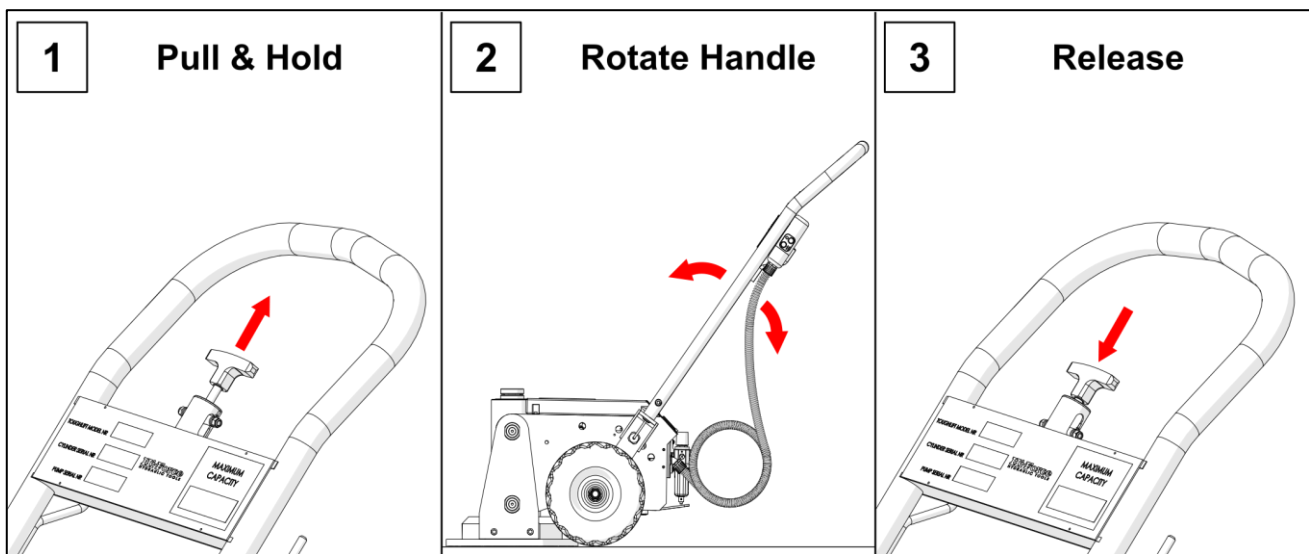
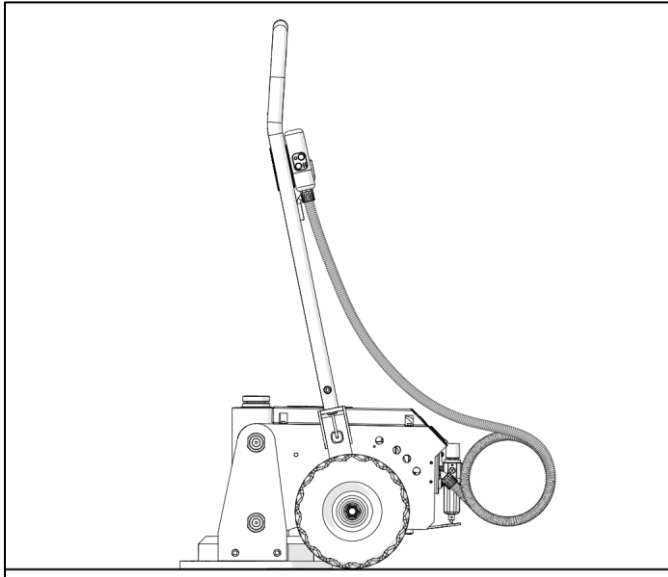

Figure 5.1: Handle Adjustment
Figure 7.1: Handle Position for Lifting the Unit
1. Adjust the handle into the most comfortable position by [1] pulling up on the handle release (6) and [2] rotating the handle (7) to the desired position. [3] Let go of the handle release (6) and allow the locating pins to engage the handle latch-pin holes (18) on the side of the ToughLift main housing (See figure 5.1).
- Before lifting the unit, adjust the handle (See *figure 5.1*) into its forward most locked position (See *figure 7.1*). This places the handle directly over the units' centre of gravity, allowing it to be safely lifted by its handle.